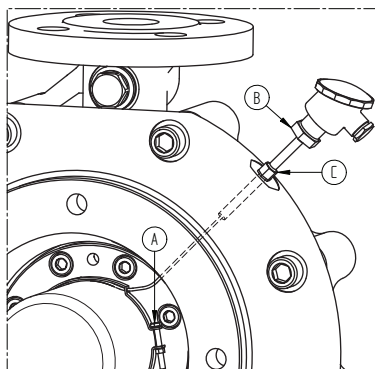

Figure 5: Inside connection of temperature sensor.
- 5 Remove the impeller key (1860).
- 3 If the pump is equipped with a temperature sensor carefully remove the hose clamp by untightening screw A (figure 5). Then loosen first B then C and remove the connection head together with the connection tube, guiding at the same time the temperature sensor from the inside through the hole.
- 14 If the pump is equipped with a temperature sensor, guide the temperature sensor from the outside through the hole and mount the connection head and tube to the intermediate cover. Then guide the temperature sensor through the hole in the hose clamp and mount the hose clamp in the position as shown in figure 5.